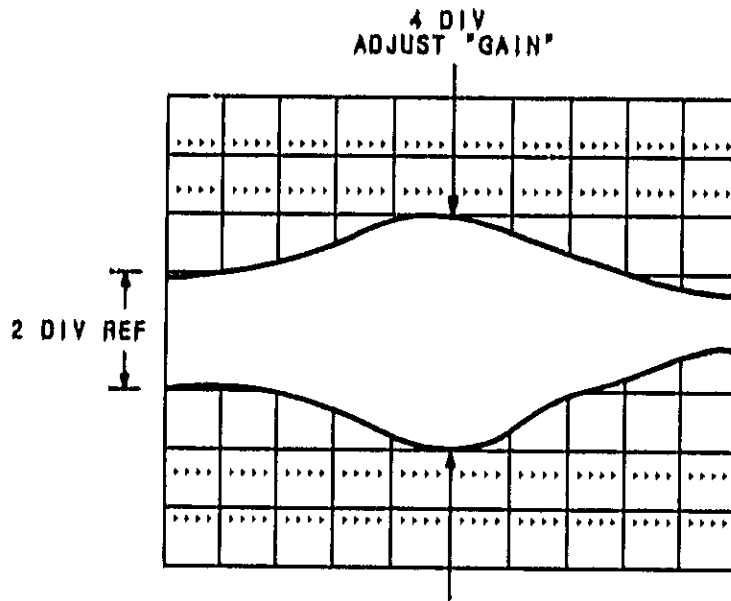

Figure 5-36a. ALC Gain Adjusted Correctly (Worst Case)
7. While monitoring CHANNEL A, manually sweep the entire plug-in frequency range and adjust the ALC "GAIN" (A4R15) for 4 divisions of peaking at the plug-in frequency where the highest gain peaking occurs. (See Figure 5-36a)